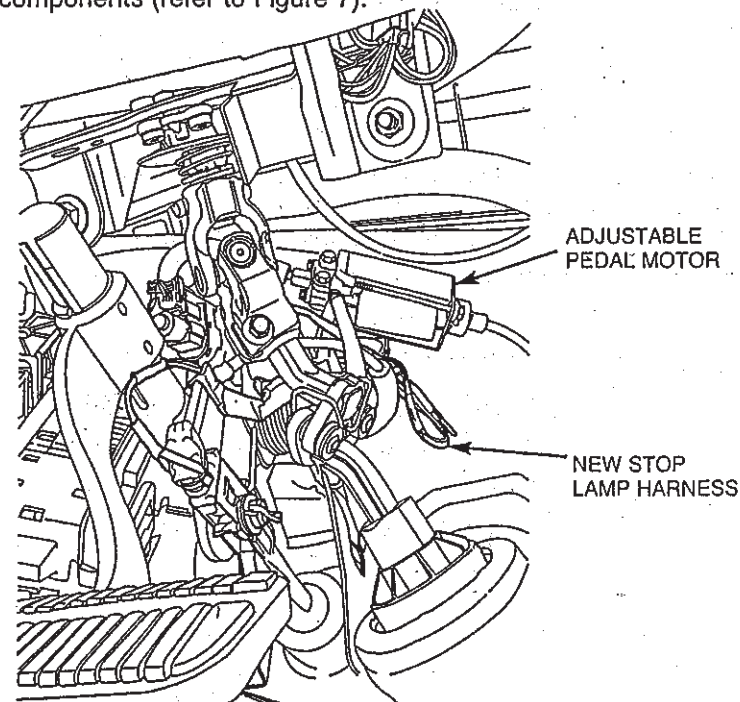

FIGURE 7
12. Position the harness back over the steering column and into place, then secure the push pin retainer(s) to the brake pedal bracket. Be sure the excess wiring is positioned above the adjustable pedal motor and does not interfere with any moving components (refer to Figure 7).